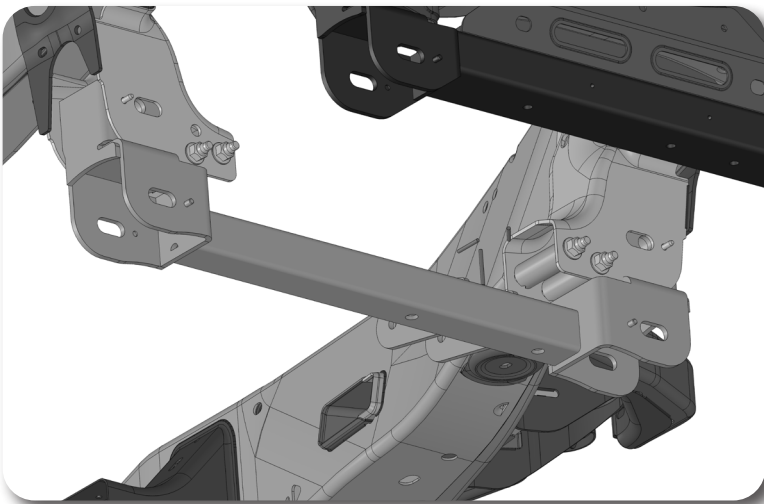

Figure 30
40. Install the new rear cross member with the provided longer 18mm bolt, prevailing torque nuts, and washers. The tabs on the cross member should align with the center differential bracket. Run the bolts from front to rear. Leave hardware loose. Fig. 30.